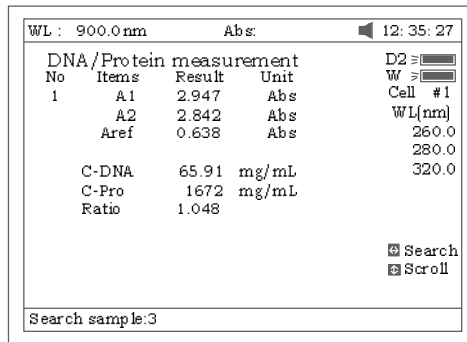

Fig 66
7. Press the key **【<】** or **【>】** for searching. Input the sample number (Fig 66), the result will be displayed on the screen. Press the key **【<】** or **【>】** to browse the test results one by one.